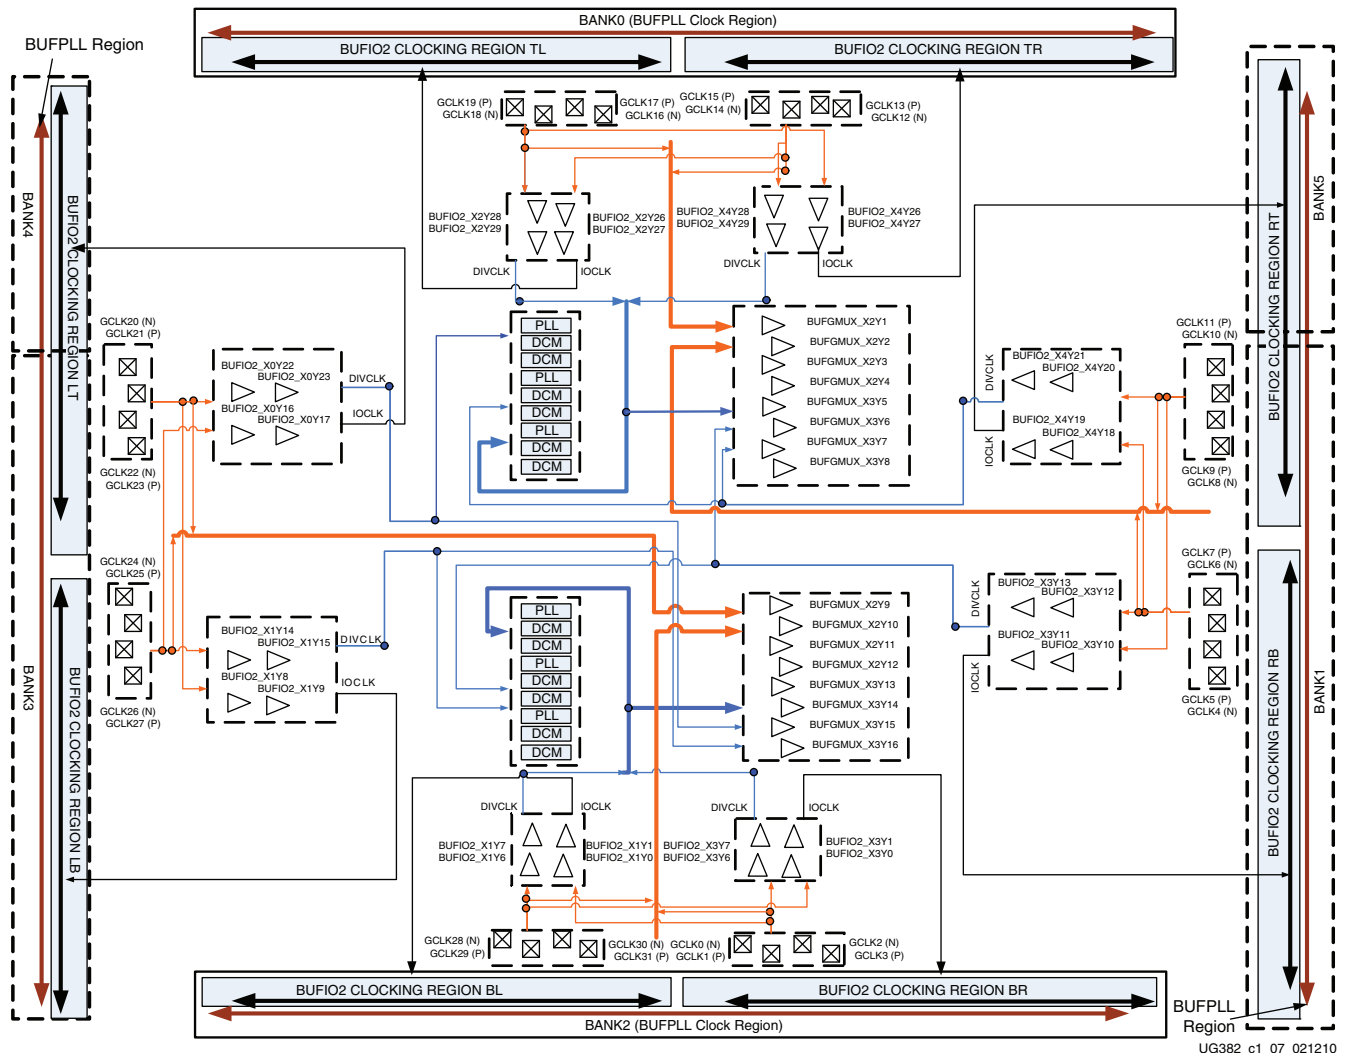
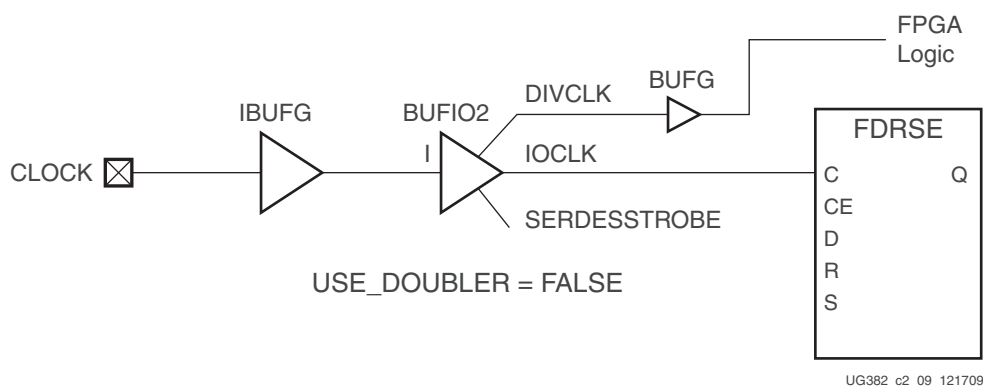

Figure 1-11: Spartan-6 FPGA Clock Pin Layout—Devices with Additional Bank 4 and Bank 5
Figure 1-12: I/O Flip-Flop Clocking using BUFIO2
Figure 1-11 shows the GCLK pin layout for the larger devices with the additional bank 4 and bank 5. The devices include the XC6SLX75, XC6SLX75T, and XC6SLX100 in the FG(G)676 package, and the XC6SLX100T, XC6SLX150, and XC6SLX150T in the FG(G)676 and FG(G)900 packages. GCLK20 through GCLK23 are powered from  $V_{CC0}$  bank 3 while the IOCLKs connect to BUFIO2 clocking region LT. Similarly, GCLK8 through GCLK11 are powered from  $V_{CC0}$  bank 1 while the IOCLKs connect to BUFIO2 clocking region RT. Figure 1-12 shows the GCLK pin layout for the smaller devices with the additional bank 4 and bank 5. The devices include the XC6SLX45, XC6SLX45T, and XC6SLX45T in the FG(G)484 package, and the XC6SLX45T, XC6SLX45T, and XC6SLX45T in the FG(G)484 package. GCLK20 through GCLK23 are powered from  $V_{CC0}$  bank 3 while the IOCLKs connect to BUFIO2 clocking region LT. Similarly, GCLK8 through GCLK11 are powered from  $V_{CC0}$  bank 1 while the IOCLKs connect to BUFIO2 clocking region RT.
To provide optimal clock routing when using global clock inputs that are directly routed to DCMs and PLLs, the BUFIO2 clock buffers are inferred. Due to this BUFIO2 routing, Bank 0 and Bank 2 global clock inputs can only route to half of the DCMs and PLLs. This limitation is shown in Figure 1-9, Figure 1-10, and Figure 1-11. The BUFIO2 located in the top half of the device (BUFIO2 clocking regions TL, TR, LT, and RT) are limited to routing
to the DCM/PLL in the top half of the device. Similarly, BUFIO2 buffers connected to the bottom half of the device (BUFIO2 clocking regions BL, BR, LB, and RB) are connected to the DCM/PLL in the bottom half of the device. See Figure 1-9, Figure 1-10, and Figure 1-11.
- Figure 1-12 uses a BUFIO2 (IOCLK) to drive the I/O flip-flop with BUFG (BUFIO2-DIVCLK) to drive FPGA logic registers. There is a routing delay through the BUFG. Works with or without IODELAY2.